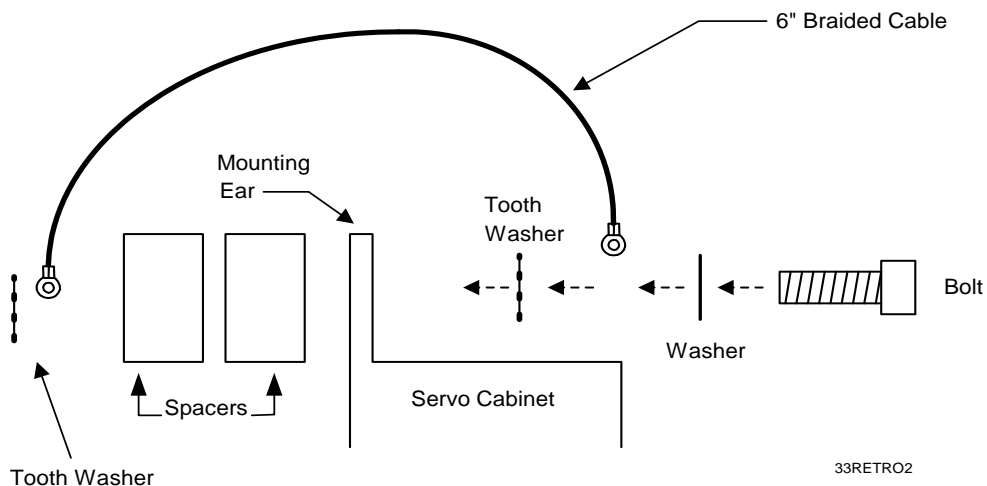
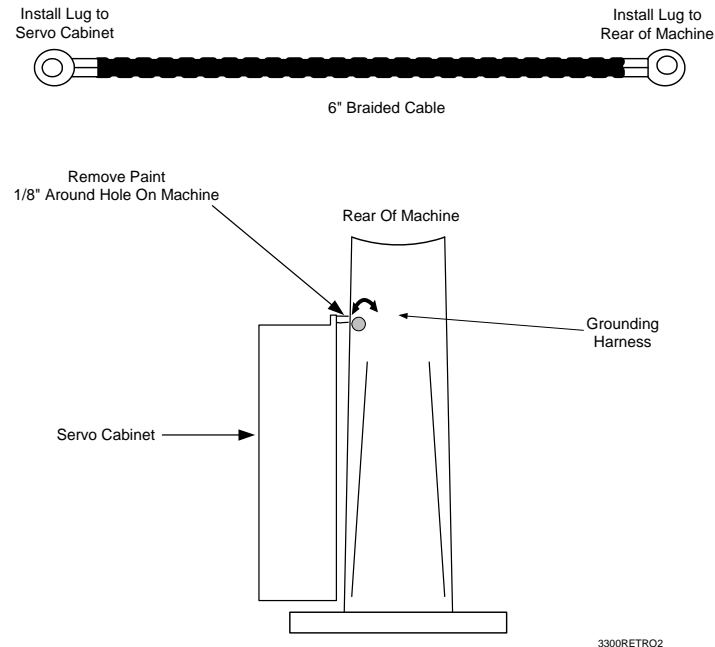

Figure 3-41, Installing the Grounding Harness on the Enclosure
Figure 3-42, Installing the Grounding Harness on the Rear of the Machine
10. Refer to **Figure 2-1, Central Grounding Buss Bar (Servo Enclosure)**, **Figure 3-41**, and **Figure 3-42, Installing the Grounding Harness on the Rear of the Machine**. For an optimal ground connection, remove a 1/8-inch ring of paint on the machine around the right (rear) hole just tapped.